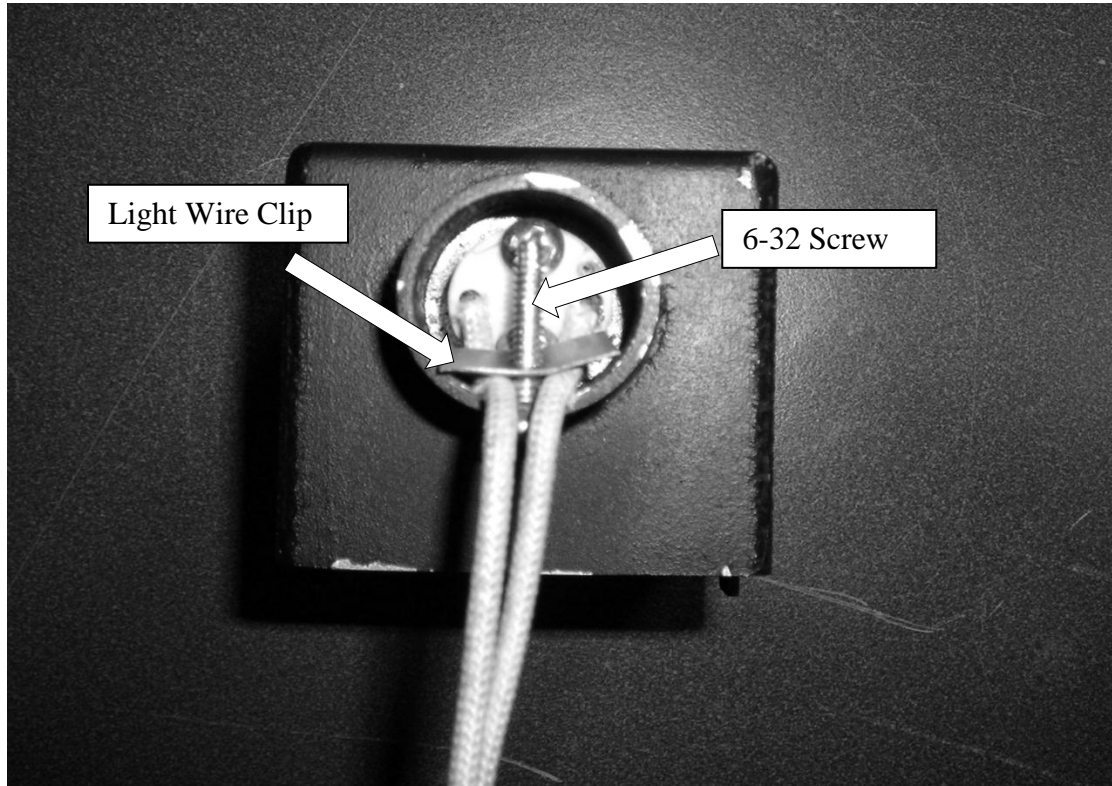

Figure 3
3. Locate the 6-32 screw and Light Wire Clip that shipped with this kit. You will use the Light Wire Clip and screw to clamp the wires to the inside rim of the Light Mounting Box. (See Figure 3) Place the Light Wire Clip just above the wires from the light socket. The 6-32 screw will slide through the hole in the bottom of the Light Mounting Box and thread into the Light Wire Clip. Carefully tighten the screw until it is clamping the wires in place. **As you tighten the screw be sure it does not pull the wires out of the light socket.** **Before supplying power back to the insert ensure there is nothing contacting the 2 screw heads that mount the light socket to the Light Socket Mounting Box.**